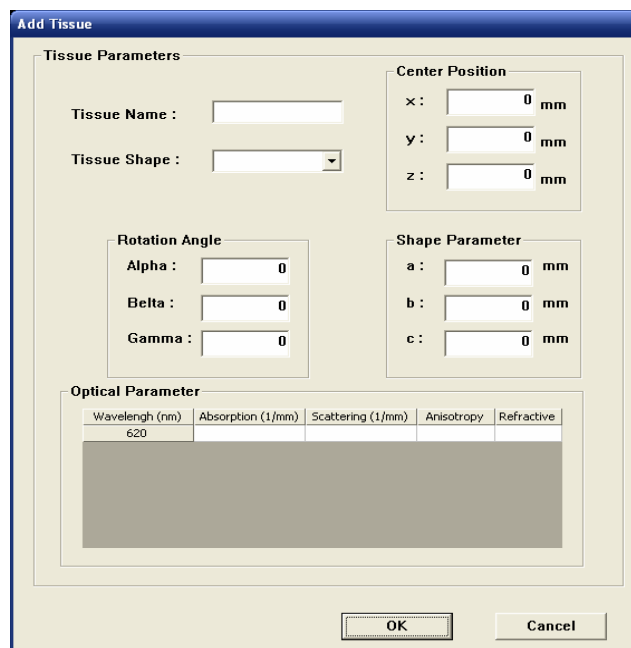

Figure 7-3. Dialog box for adding a new tissue
a. Click the button **Add Tissue**, there will be an input dialog box as Figure7-3 shown. We can add tissue as we need. Here we should input the tissue’s name, shape, center coordinates, rotation angle, half axis length and optical parameters. Especially, in 3D